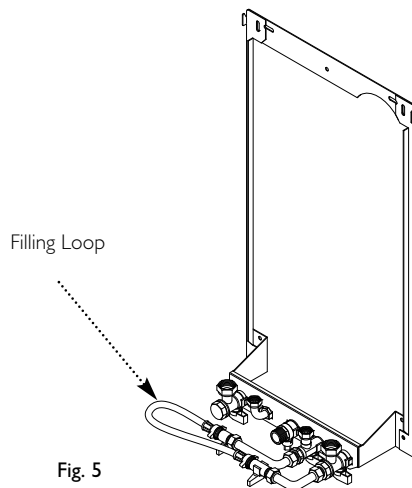

Fig. 5
2. There are connection points on the mains cold water inlet and central heating return isolating taps (Fig. 5) to which the optional filling loop kit (Part No. 248221) can be assembled.